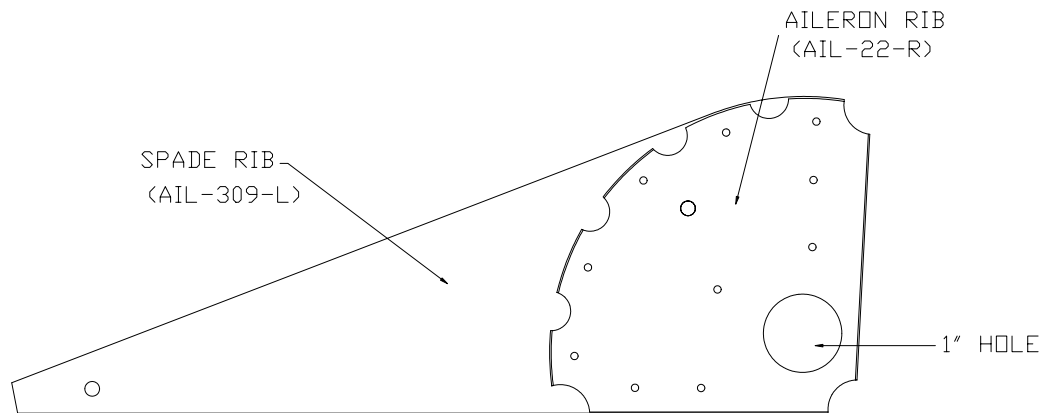

Figure 7.2.5
- 10) A 1" hinge bolt access hole must be cut into the Leading Edge Rib and the Spade Rib at the tooling hole. Figure 7.2.5.